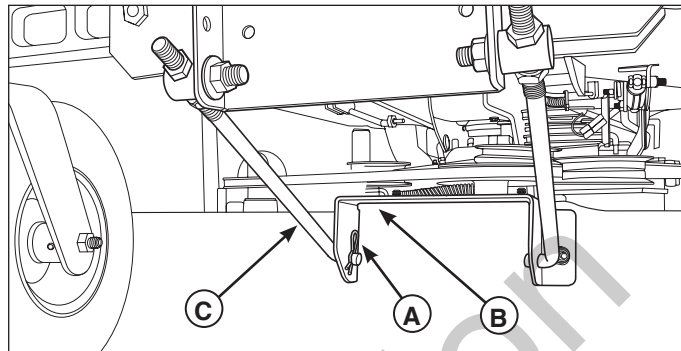

Figure 19. Front Deck Lift Components
5. Remove the hairpin clips and washers (**A**, Figure 19) securing the front mower deck bracket (**B**) to the front lift rods (**C**), and pull the rods out from the holes in the bracket. Retain all removed hardware.
4. Insert the front lift rods (C, Figure 19) into the bottom holes in the front mower deck bracket (B), and secure each with a washer and hairpin clip (A).